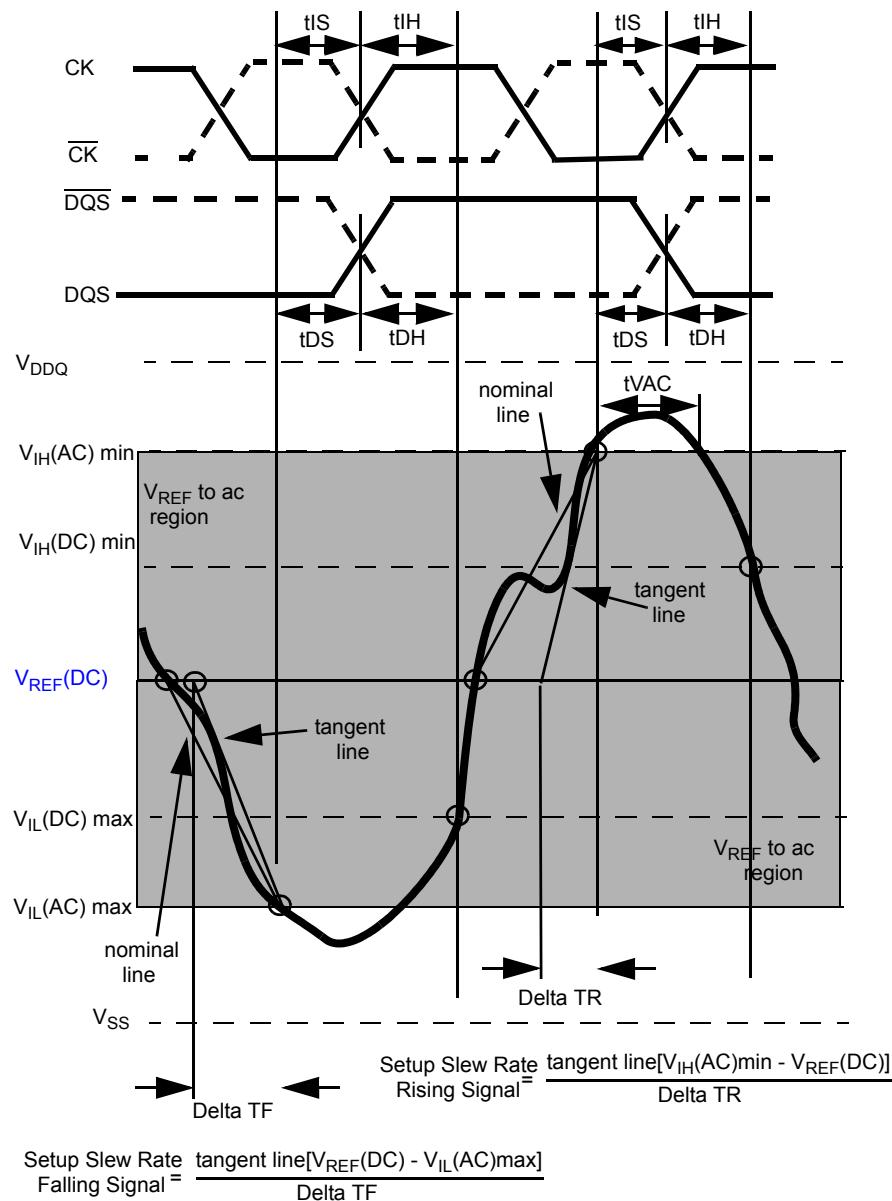

Figure 23. Illustration of tangent line for setup time t_{DS} (for DQ with respect to strobe) and t_{IS} (for ADD/CMD with respect to clock)
Example: tIS (total setup time) = tIS(base) + ΔtIS Setup (tIS) nominal slew rate for a rising signal is defined as the slew rate between the last crossing of $V_{REF}(DC)$ and the first crossing of $V_{IH}(AC)min$. Setup (tIS) nominal slew rate for a falling signal is defined as the slew rate between the last crossing of $V_{REF}(DC)$ and the first crossing of $V_{IL}(AC)max$. If the actual signal is always earlier than the nominal slew rate line between shaded 'V_{REF}(DC) to ac region', use nominal slew rate for derating value (see Figure 23). If the actual signal is later than the nominal slew rate line anywhere between shaded 'V_{REF}(DC) to ac region', the slew rate of a tangent line to the actual signal from the ac level to dc level is used for derating value (see Figure 25).